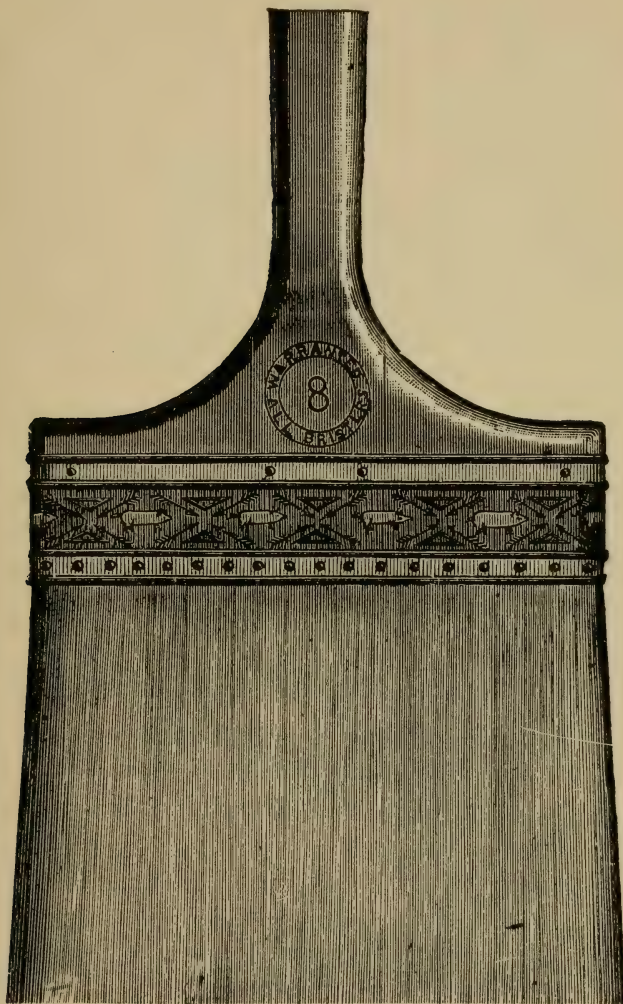

Fig. 1—Kalsomine Brush.
a. *The calcimine brush* is probably the largest and most expensive brush made for the paint trade. The best are made from long springy Russian stock and on downward to clear Tampico. They are made on a flat wooden head with a wooden handle and are bound in metal nailed on to the head, usually galvanized iron is used for the purpose. They are made in three sizes: 6, 7 and 8 inches wide. See Fig. 1.